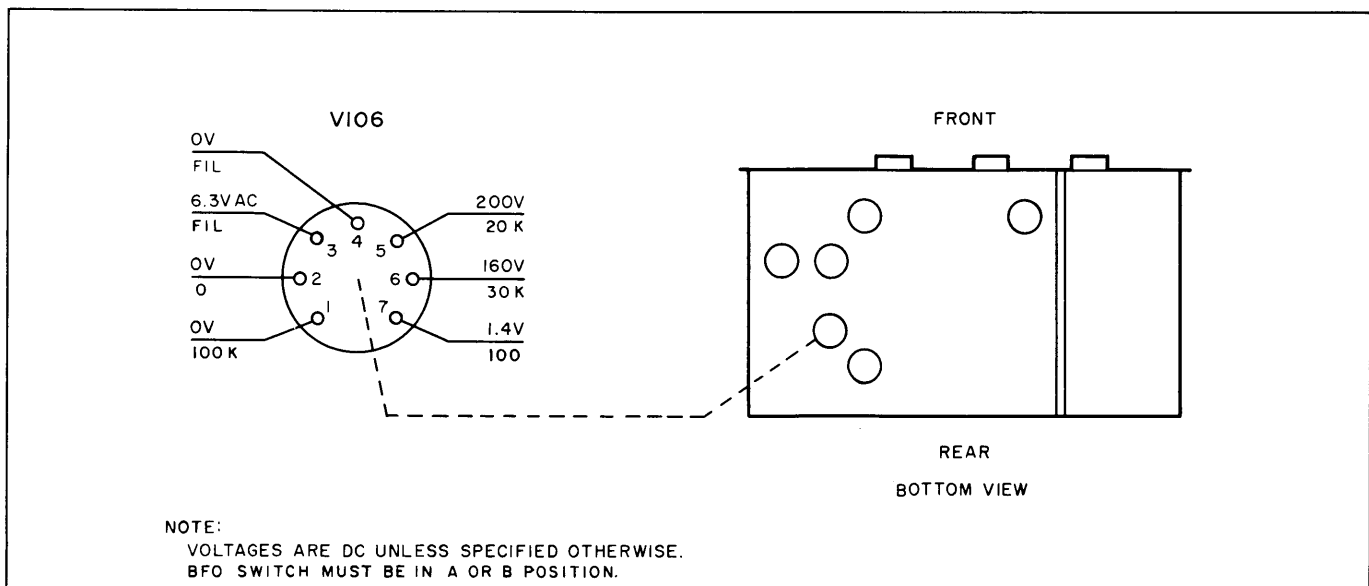

Figure 4-5. Bottom View Showing BFO Tubes
b. TEST DATA. (See figures 4-5 and 4-9.) - The BFO output at jacks J106 and J107 should be one volt (rms). The frequencies of the crystals can be determined by connecting a frequency counter to one of these jacks. If one of the outputs seem to be defective, check that particular crystal. Trimmer capacitors C125 and C128, located on the side of the oven, can be varied to compensate for varying circuit parameters. A defective output can be caused by a bad tube or circuit components. Check V106 and L114. Faulty oscillator operation can also be